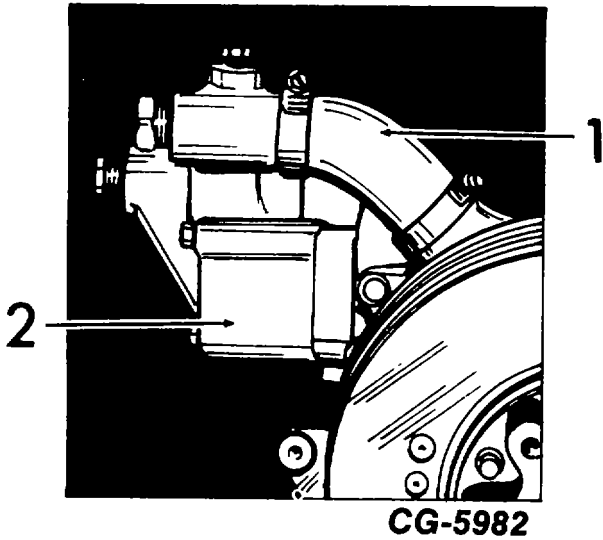

Figure 10. - Thermostat Housing and Water Pump Hose
- a. Disconnect and remove thermostat housing-to-water pump hose (1, Fig. 10).
- b. Remove thermostat housing (2) with thermostat
2. Disconnect fuel return lines (1, Fig. 10) from nozzle holders (2). Cap fittings to prevent entry of dirt into fuel system.
3. Remove cap screws (3), lift out nozzle assemblies (4). **Be extremely careful not to damage nozzle tips.** Place nozzle assemblies in rack to protect tips from damage.
4. Remove valve cover (5) and gaskets.
5. Remove bolts (6) securing valve lever assembly to cylinder head. Remove valve levers (rocker arms) as an assembly.
6. Remove push rods (7).
7. Remove remaining cylinder head bolts (8).